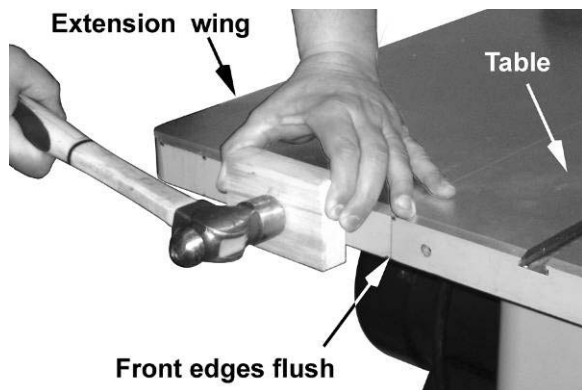

Figure 2
3. Make sure that the *front edge* of the extension wings are flush with the front edge of saw table (Figure 2).